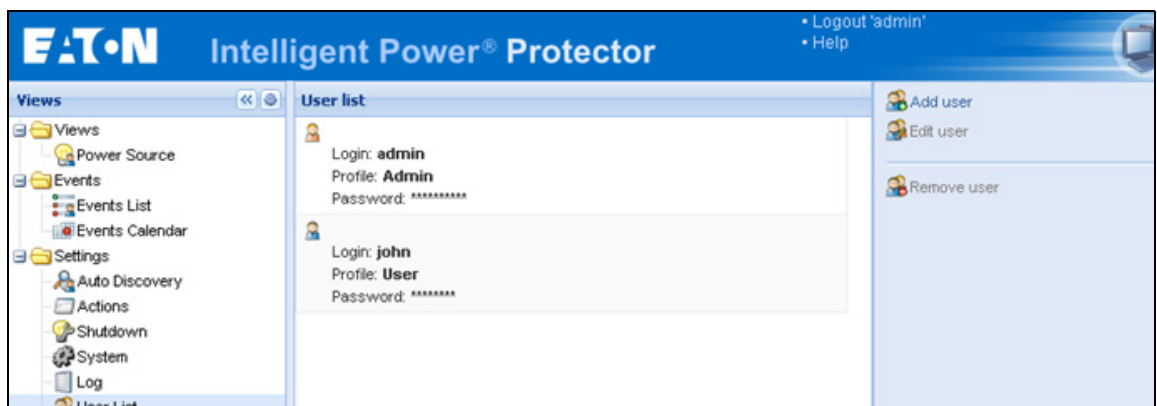

Figure 22. User List Page for User Account
1. From the left-side **Views** panel of the Eaton IPP main interface window, select **Settings > User List**. The User List page displays (see Figure 22).